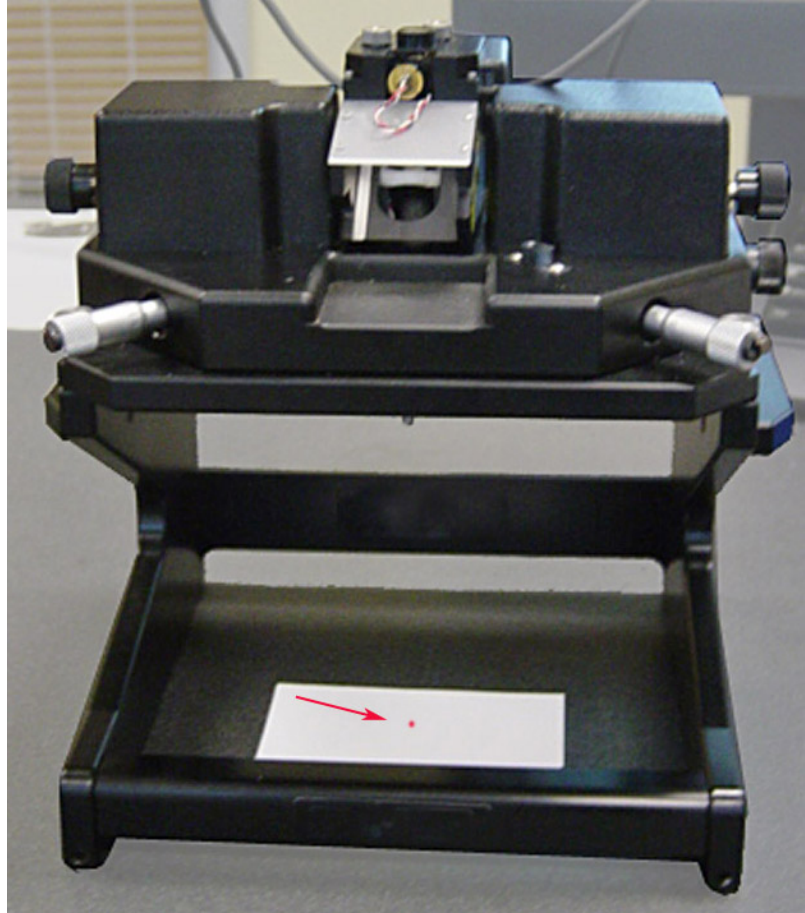

Figure 57 Aligning laser spot over white paper.
- 2 Turn on the Head Electronics Box, which will activate the laser. You should be able to see the red laser spot on the paper (Figure 57).